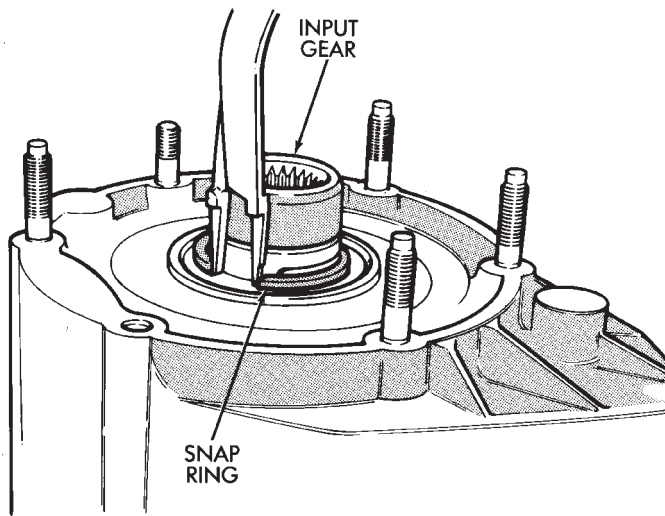
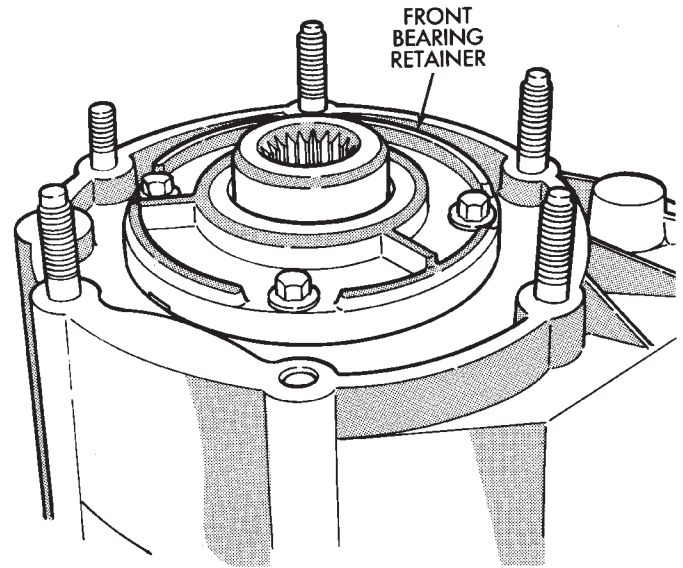

Fig. 65 Input Gear Snap Ring Installation
Fig. 66 Installing Front Bearing Retainer
- (5) Press input gear shaft into front bearing.
- (6) Install new input gear snap ring (Fig. 65).
- (7) Apply 3 mm (1/8 in.) wide bead of Mopar® gasket maker or silicone adhesive sealer to seal surface of front bearing retainer.
- (8) Install front bearing retainer (Fig. 66). Tighten retainer bolts to 16 ft. lbs. (21 N-m) torque.